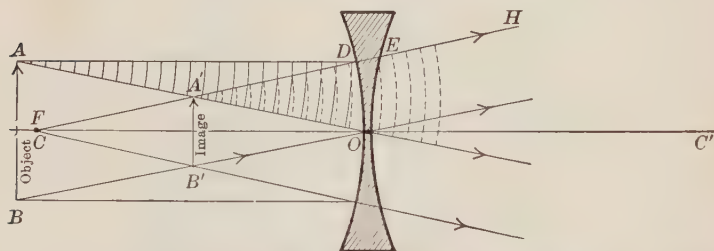

FIGURE 600.—Rays  $AO$  and  $AD$  diverge more widely after passing through the concave lens. Waves from  $A$  and  $B$  appear to come from the virtual image  $A'B'$ .
**415. Image Formed by a Concave Lens.** — The character of an image formed by a concave lens may be determined by the study of the preceding explanation and the accompanying figure (Figure 600). In this figure,  $C$  and  $C'$  are the centers from which the curved surfaces bounding the lens are drawn. The line  $CC'$  is the *principal axis* of the lens.  $O$  is the *optical center* of the lens, the only point in the lens through which a ray of light may pass without refraction.  $F$  is the *principal focus* of the lens, which for a concave lens means the point from which all rays parallel to the principal axis appear to